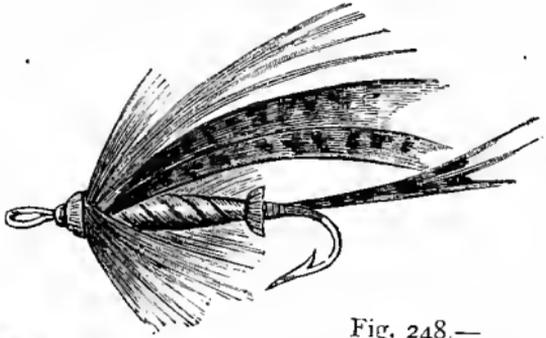

Fig. 248.—
*Salmon Fly for the Wye, etc.*—Fig. 248 shows a neat, attractive fly on the Wye, Esk, Conway, and some of the salmon rivers of Wales. Body, dull mohair ribbed with gold tinsel and a long fibred hackle of the same colour wound over it; tag, a sable brown herl; tail, small toppings and sprigs of bustard and guinea hen feathers; wings, divided and un-separated slips from the bustard or peacock wing, or from a cinnamon brown and dark mottled turkey tail feather; feelers, blue and yellow macaw; head, bronze peacock herl.